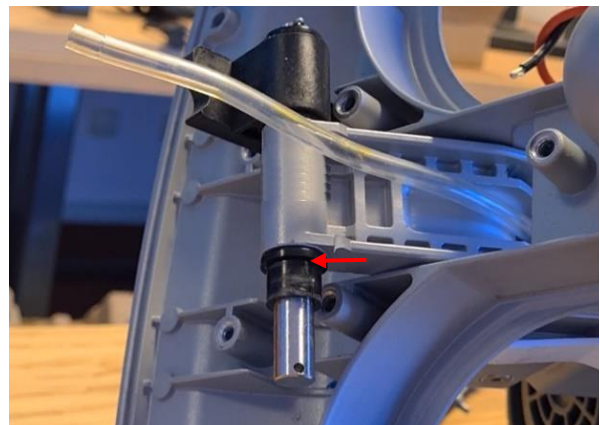

Figure 180
- the two bolts in Figure 180,